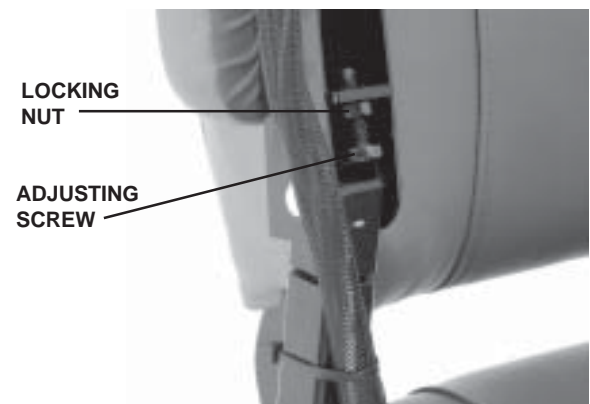

Figure 13. Armrest Angle
2. Use an 11-mm spanner to loosen the locking nut. See figure 13.